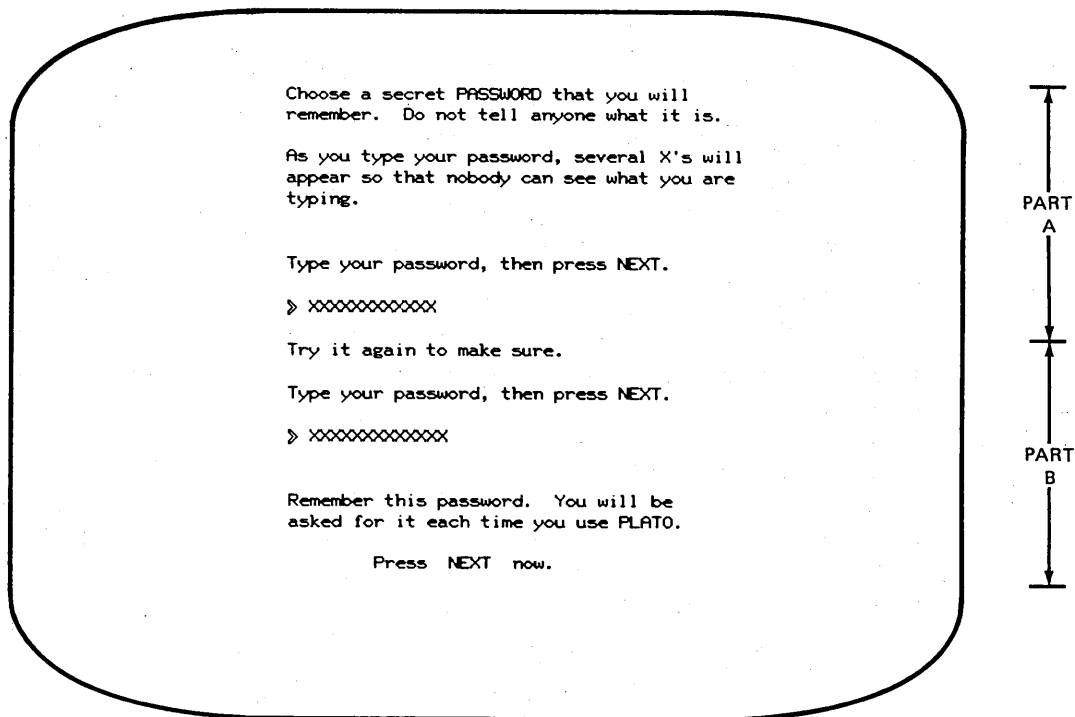

Figure 2-5. Password Choice Display
- b. If you are required to have a password and this is the first time you are signing on, Password Choice Display (figure 2-5, part A) appears. Select your password and type it carefully.
A random number of X's appear to the right of the arrow so nobody can read your password. When you finish typing your password, press NEXT. Part B of figure 2-5 appears. Type your password again. Press NEXT, and go to step 6.